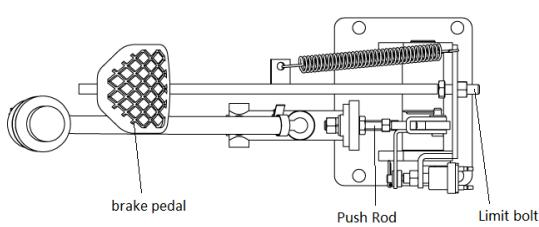

Figure14
5.3.7 Brake pedal adjustment .shown as figure 14